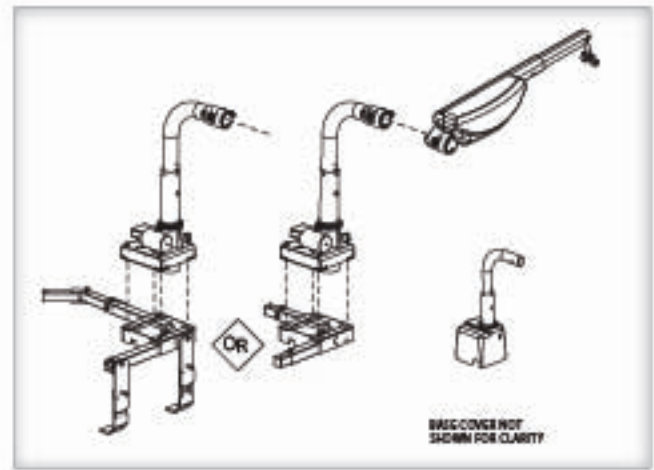

Figure 17-1
3. **With an assistant, place the lift on top of the base** in the extreme back corner of the cargo space. This will yield the greatest available loading area. Slide the arm onto the post. [Figure 17-1]